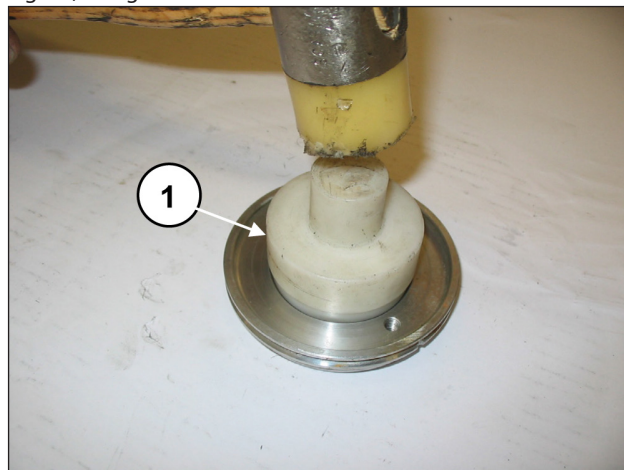

Fig. 94
Mount the radial seal ring onto the oil seal cover (pos. ①, Fig. 94) using a buffer code 27910900.